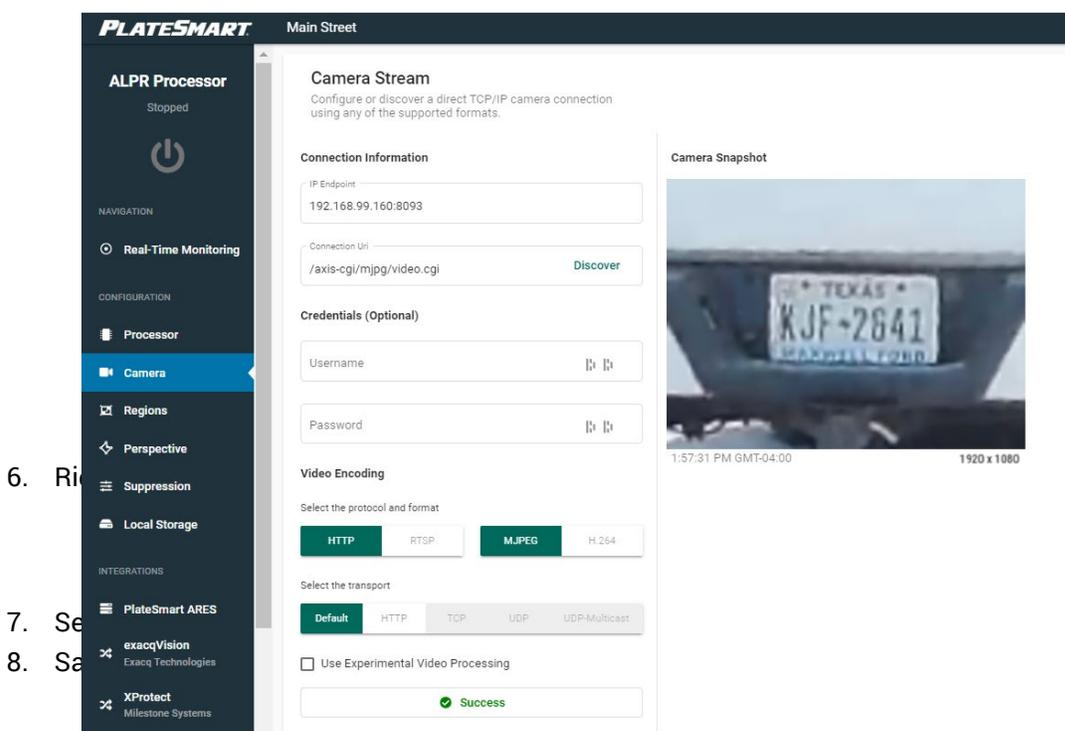

Figure 9
5. If the connection is successful, you should see a static image from your camera in the upper right corner of the screen. This image is representative of what the camera is sending to the ALPR processor (Figure 9).